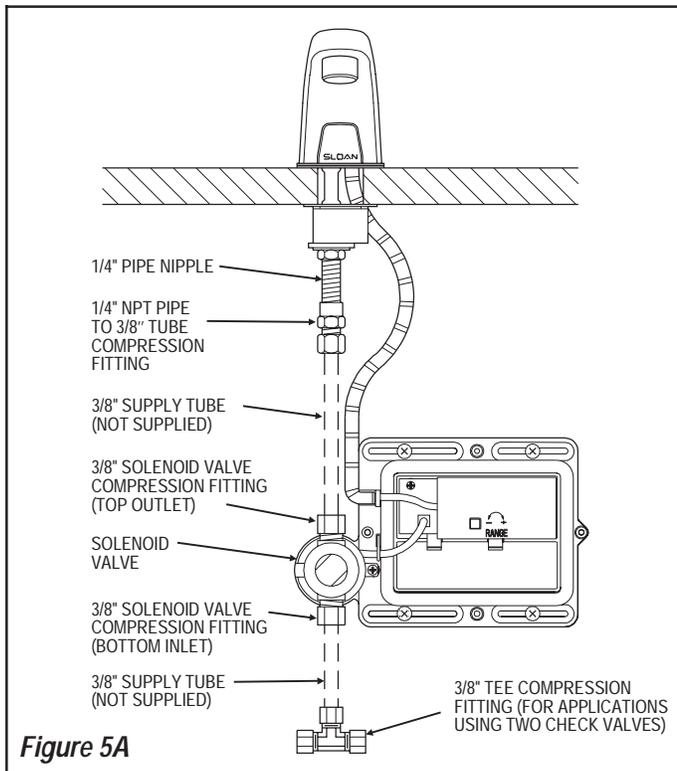

Figure 5A
### Step 5 — Connect Supply Line From Solenoid Valve Outlet to Faucet (Figures 5A and 5B)
**For Model 615** — Install the 1/4 inch Pipe to 3/8 inch Tube Compression Fitting onto the Spout's Pipe Nipple (refer to Figure 5A).